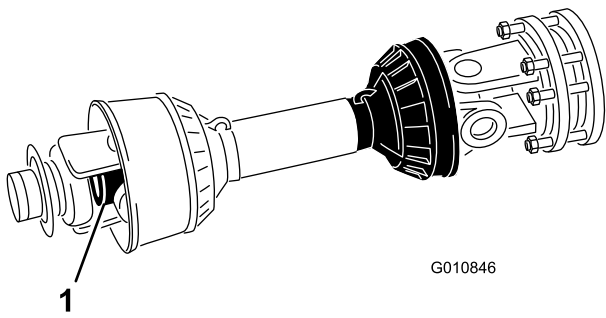

Figure 14
9. Slide the PTO shaft tubes together until they are fully collapsed. Verify that the **inside** tube does not protrude into the cross and bearing section of the outer tube (Figure 14). If this happens, cut **more off** the inside tube, to correct the problem.